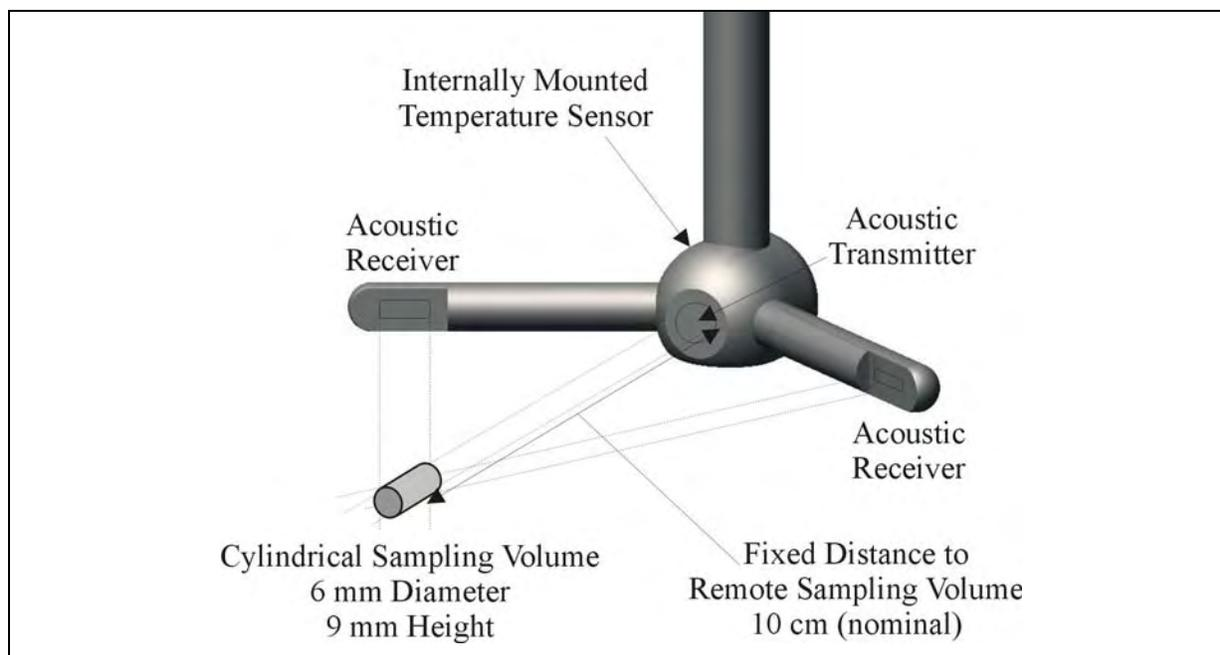

Figure 31 – FlowTracker 2D Side Looking Probe and Sampling Volume
Figure 31 shows the FlowTracker probe. The FlowTracker is a *bistatic* Doppler current meter.
- The physical size of the sampling volume is a cylinder 6 mm (0.24 in) in diameter by 9 mm (0.35 in) in length (see Figure 31).